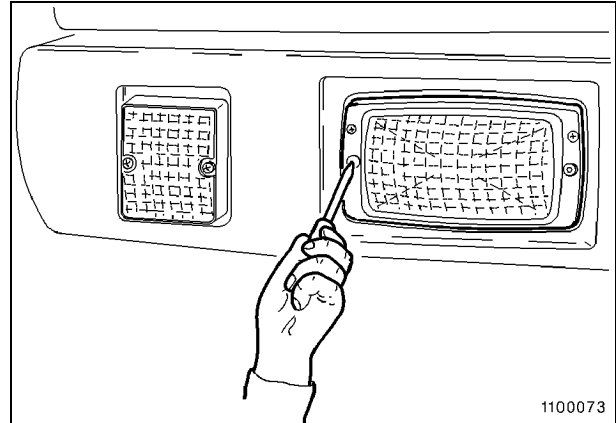

Fig. 1
- Remove the headlamp from the superstructure frame (Fig. 1).